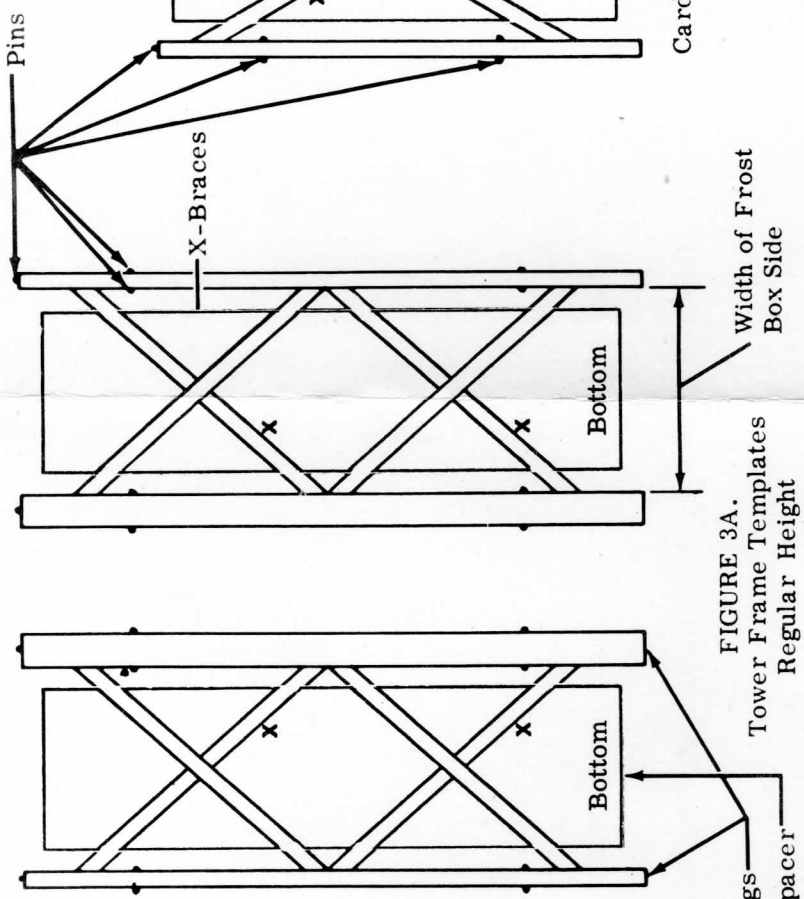
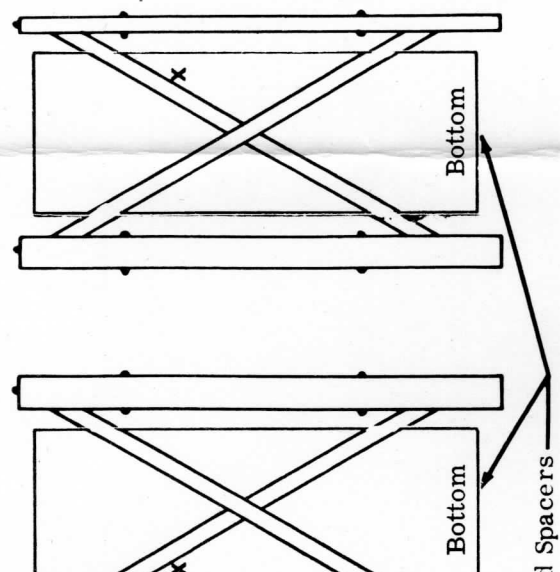
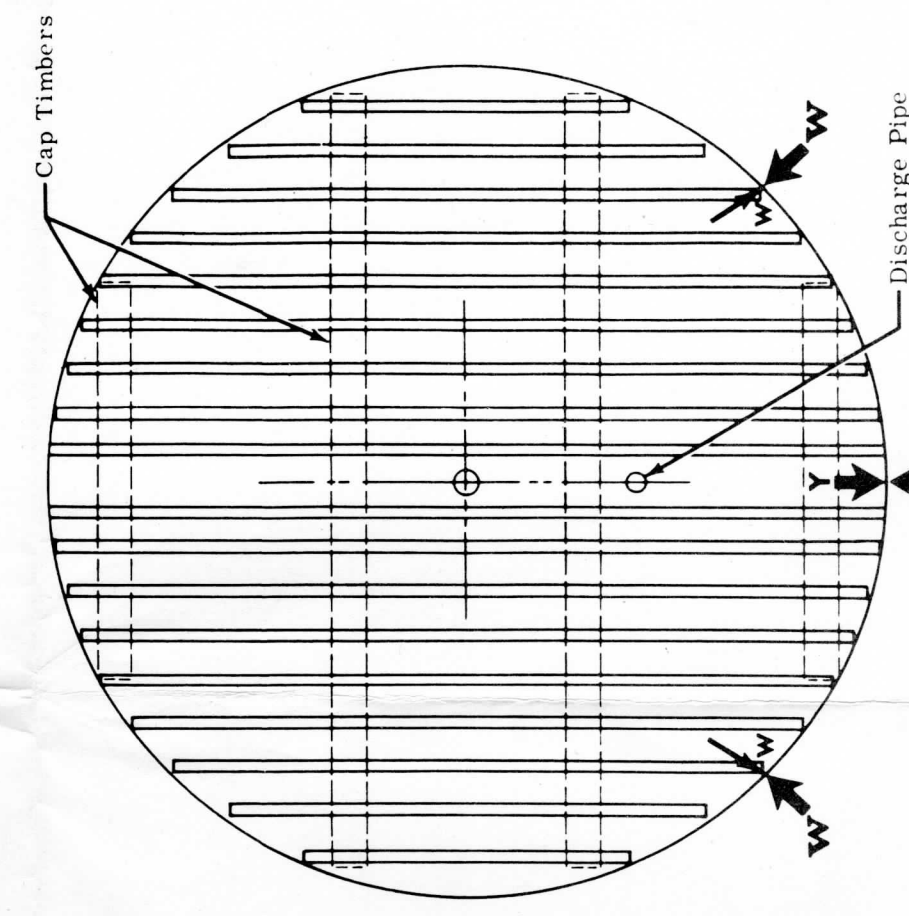

FIGURE 3A.
FIGURE 3B.
FIGURE 7.
3. While the tank sides and core are drying, make the frames for the tower. These are assembled on the templates in either Fig. 3A or Fig. 3B. To build the normal-height tank, as shown in the photograph and in the side view, Fig. 7, use the template in Fig. 3A. Some of the older and narrow gauge roads built lower towers under their tanks. For this construction, use the templates in Fig. 3B, and the method in Step 5 below.
4. The legs of the tower are made of 3/32" x 3/16" wood, and are cut to length for the higher tower. Each leg is formed by two pieces which glue together as you assemble the tower frames to make the finished legs, 3/16" square. The tower is made up of 12 frames, of which 8 are to be made on the right hand template of Fig. 3A and 4 on the left hand template of Fig. 3A.
Start by cutting 48 diagonal "X" braces from the 1/16" x 3/32" wood, to fit the templates in Fig. 3A. The diagonals must be cut with their wider side against the template, while cutting the ends on the angles to fit between the legs. Cut them carefully and accurately. Cut the two tower frame spacers from the printed card, and glue them over the shaded areas in Fig. 3A, so the diagonals line up with the diagonals on the template.
As each frame dries, mark the bottom and lift it carefully from the jig. Repeat, making four frames from the left, and eight from the right hand template in Fig. 3A.
5. If you are building the lower "narrow gauge" tower, the procedure is the same as in Step 4, except that all the legs must be cut to the shorter length shown on the template, and there will be only two diagonals in each frame. For the lower tower use only the templates in Fig. 3B, with card spacers as described above. You will also have to use extra care in removing the frames from the template, and in assembling the tower, as the two legs of each frame are held together by only one diagonal until the frames are assembled into the tower.
16. Cut out the circle in Fig. 7 the template for the floor joists. The position for the spout is marked "Y", and the water gauge will be placed at either of the two positions marked "W". Glue the circle firmly to the bottom of the tank (the end where the bands are closest together), and with the gap in the tank wrapper at one of the two positions marked "W". (Choose the position that will show the water gauge best when the tank is installed on your layout).
17. The floor joists are 1/16" x 3/16" wood. Cut them to length as per template. Glue them firmly, on edge, to the bottom of the tank in the positions shown on the template, Fig. 7. Drill a 3/32" (#38) hole in the floor between the joists, in the position marked for the discharge pipe. (The pipe will be installed later).
19. If you are going to paint the tank, it would be well to paint the tower frame, the frost box, and between the floor joists before going further. Use any color you like, or have adopted as the standard colors for structures on your layout. Red, yellow or gray are often used, or yellow with brown trim (as on the frost box door frame, tie rods, etc.). Glue the tank to the tower frame by spreading glue on the top surface of the cap timbers. Notice in Fig. 7 how the spout location lines up with the cap timbers.